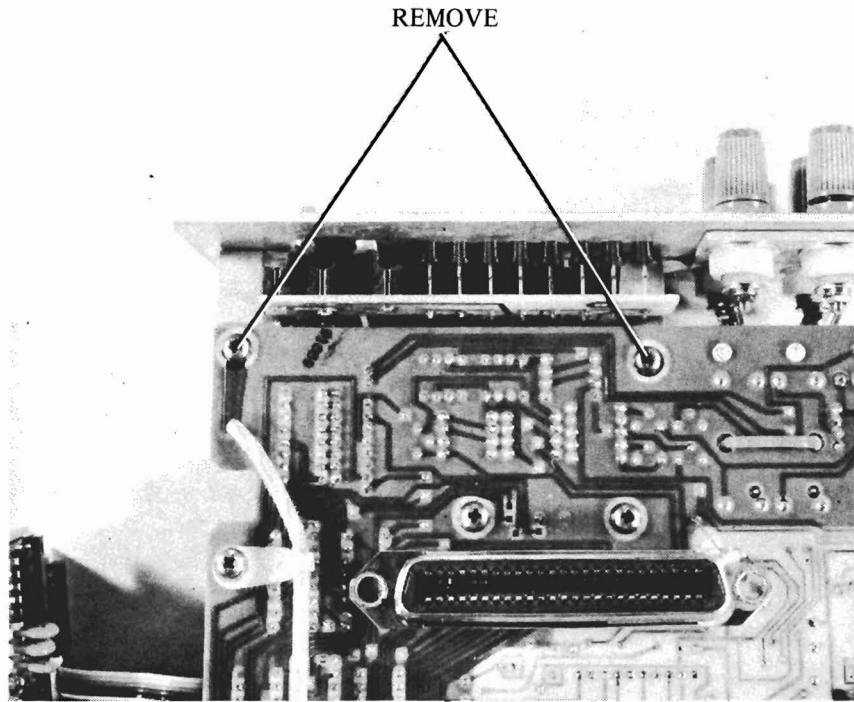

Figure 1.
2. Locate the two screws that go through the A1 Mother board and screw into the two flanges that project back from the metal Front Panel Assembly (-hp- Part Number 34703-00201). Remove these two screws as shown in Figure 1.